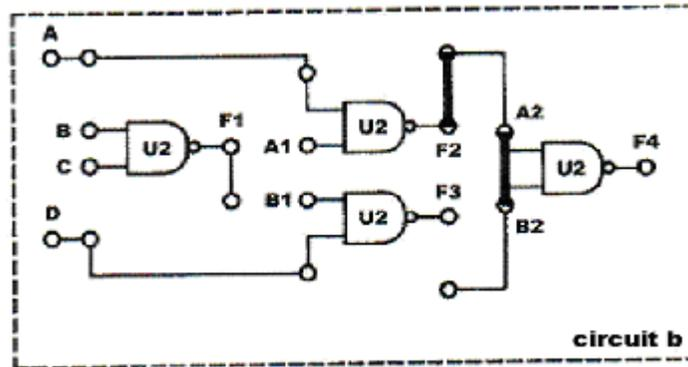

Fig. 2-6 (a)
(3) Remove connection clips and insert them again according to Fig. 2-6 (a) to construct the AND gate shown in Fig. 2-6 (b). Connect A to SW1, A1 to SW2 and F4 to L1. Follow the input sequences given below and record the outputs in Table 2-4.